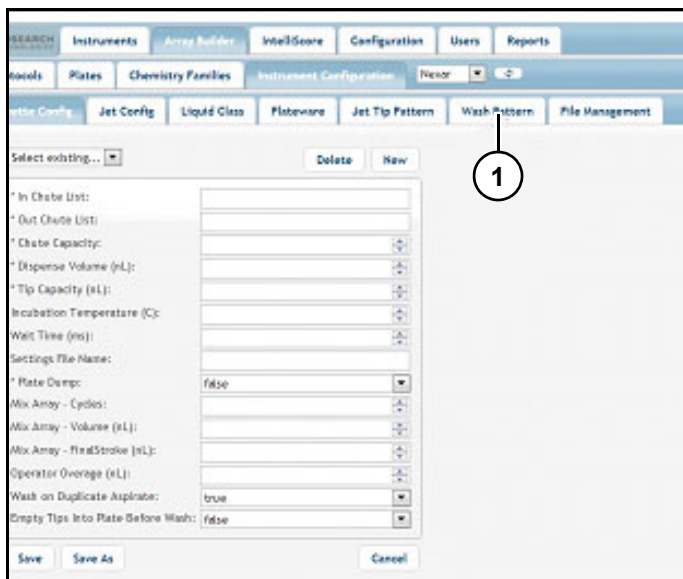

Figure 10
5. Click "Wash Pattern" (1) (Figure 10).